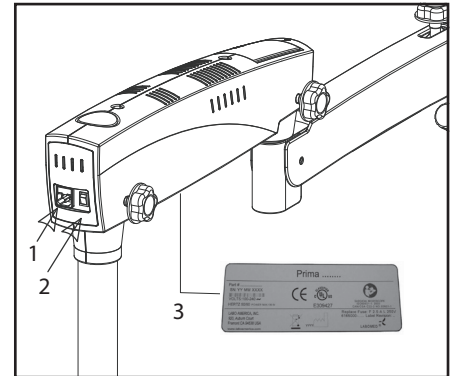

Fig 7
Connect the power cable to the AC inlet socket (1) located at the back of the swivel arm (see Fig. 7).
Note: The power supply is designed with universal input 100V-240V AC, 50/60Hz. To plug in the power supply, follow the instructions on the electrical label located at the bottom of the arm (see 3 in Fig. 7).
1. ON/OFF Switch (see 2 in Fig. 7)